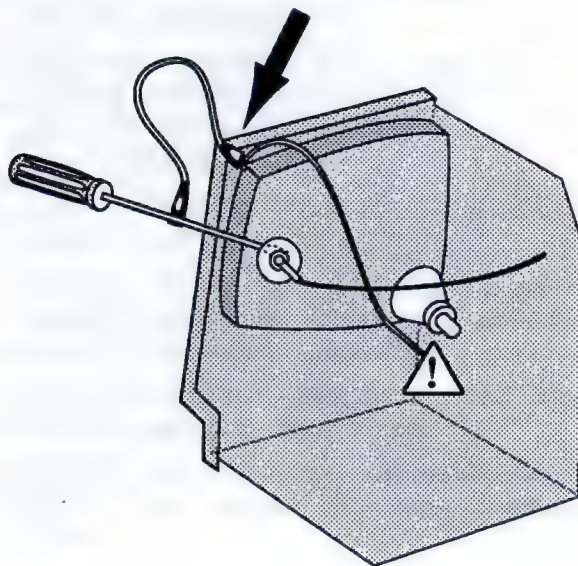

Figure 3 : Discharging the CRT anode
2. Attach the alligator clip of the CRT discharge tool to the metal part of the ground lug exactly as shown in Figure 3; *Do not clip onto the chassis.*